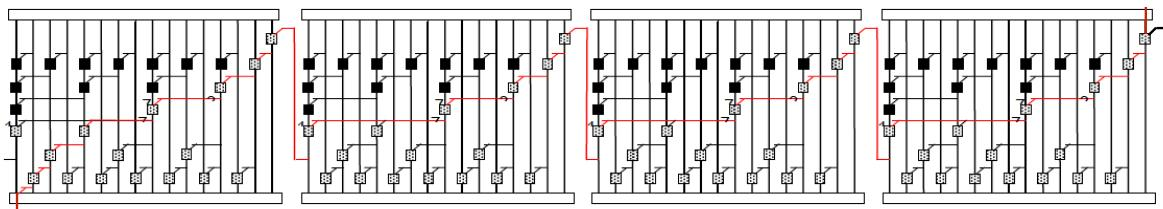

Figure 13: The 64-bit adder with its critical path drawn in red.
- The last sum to be done is sum 63, which requires G62:0 as an input to its XOR gate. The delay for the critical path is  $t_{pg} + (5 + 5 + 5 + 7)t_{AO} + t_{XOR} = t_{pg} + 22t_{AO} + t_{XOR}$ . See Figure 13.